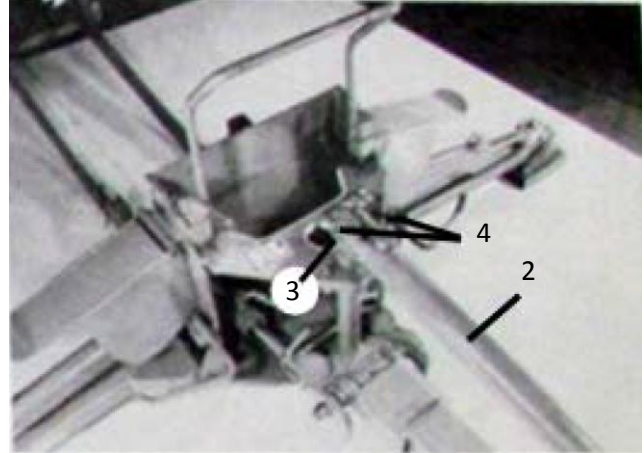

Fig. 3
(2) Mount the base end of the main boom cylinder (Item 2) with flat top end of the swing shaft between the ears of the cylinder devis. Secure the boom cylinder with a $\frac{3}{4}$ " x $2 \frac{3}{4}$ " cylinder pin (Item 3) and two each $1/8$ " x 1" cotter pin (Item 4) as show in Fig. 3.